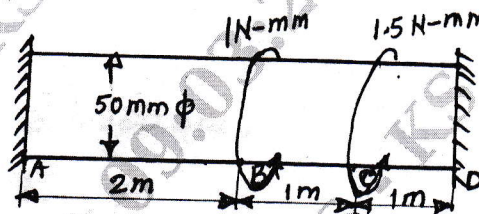

Fig Q6(b)
b. A circular shaft subjected to torque at section "B" and "C" as shown in Fig Q6(b). Determine the maximum angle of twist and shear stress by taking modulus of rigidity for the shaft material as 70GPa.